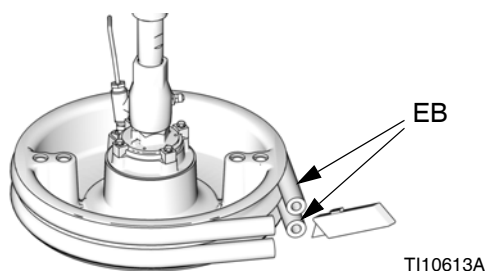

FIG. 18
2. Turn the disconnect switch (M) to OFF.
3. To replace worn or damaged wipers (EB), raise platen up out of drum. Remove drum from base. Wipe fluid off of platen.
4. Cut top and bottom wipers with knife and remove from platen. See FIG. 18.